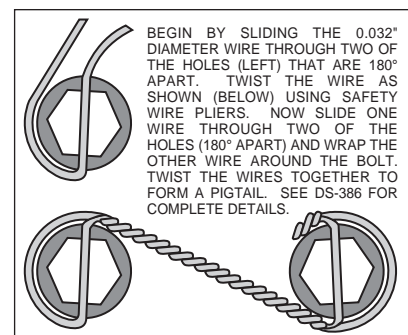
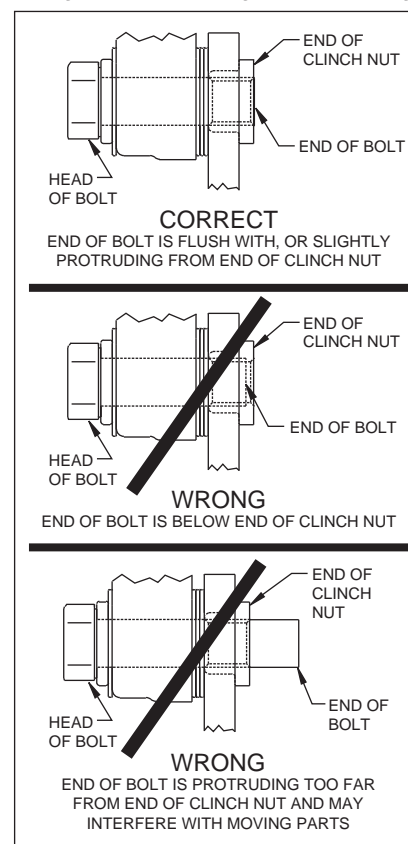

Figure 4. Safety Wire Diagram
Figure 5. Clinch Nut Engagement Diagram
Assembly Instructions (numbers in parenthesis refer to the part list/diagram on the preceding page): **CAUTION:** All mounting bolts must fully engage insert nuts. Be sure to check that all bolts are either flush or protruding through flanged side of insert nut after shimming, Figure 5.
- The rotor (3) has two sides. A flat side and an inset side. Bolt hat (2) to flat side of rotor (3) using bolts (5). Using an alternating sequence, apply red *Loctite*® 271 to the threads and torque bolts to 25 ft-lb. Safety wire bolts using standard 0.032 inch diameter stainless steel safety wire as shown in Figure 4. Refer to Wilwood's data sheet DS-386 (available at www.wilwood.com/Pdf/DataSheets/ds386.pdf) for complete safety wire installation instructions.
- Align the correct hole pattern in the hat (2) with the stud pattern on the axle flange. **NOTE:** Some OEM and after market axles come with stud sizes larger than 0.50" diameter. Verify stud size and have a qualified machine shop drill the hats to the correct size. Slide the hat/rotor assembly (2 and 3) over the wheel studs and against the axle flange face.
- NOTE:** Please reference the caution statement at the beginning of the assembly instructions. Mount the caliper (6) over the rotor (3) and onto the caliper mounting bracket (1) using washers (7) and mounting bolts (8). View the rotor through the top opening of the caliper. The rotor should be aligned in the center of the caliper. If not, adjust the caliper by using 0.032 inch shims (9) by placing them between the caliper mounting bracket (1) and the caliper (6). Add as many shim washers (9) as necessary to achieve the correct alignment. **NOTE:** The end of the bolt must be flush with or slightly protruding from the head of the clinch nut. See Figure 5. Place spare shims (9) between washer and caliper mounting ear to achieve the proper mounting fastener configuration. Always use the same amount of shims on both the top and bottom caliper mounting bolts (8). Apply red *Loctite*® 271 to the mounting bolt threads (8), torque to 40 ft-lb. Caliper mount bolts may be safety wired for additional security.
- Position the Wilwood disc brake pads (10) into the caliper (6) and fasten with cotter pin (4). Steel backing plate side of brake pad should face the caliper pistons.